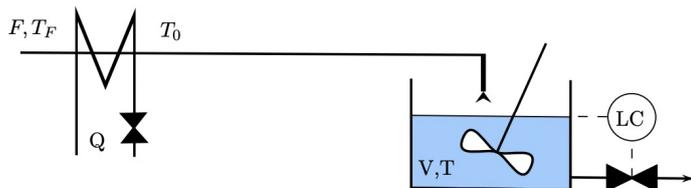

Figure 2: Pipe and tank process
The feed to a continuous process enters through a long pipeline (Figure 2). We assume perfect mixing and constant volume in the tank (using level control). The heat loss is neglected. We want to analyze how the tank temperature (T) changes when the inlet temperature T_0 varies.